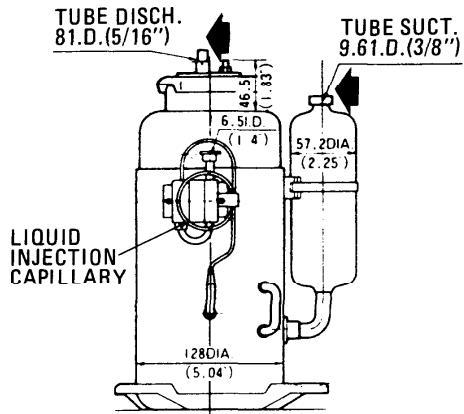

Fig. D-12
- 5) With an Oxy-Acetylene torch apply heat uniformly and unbraze the joints of upper section of the Liquid Injection Capillary tube to the compressor, the upper section of the accumulator and the upper section of the compressor discharge pipe respectively, and pull them free with pliers. Fig. D-12 shows unbrazing points with arrows.